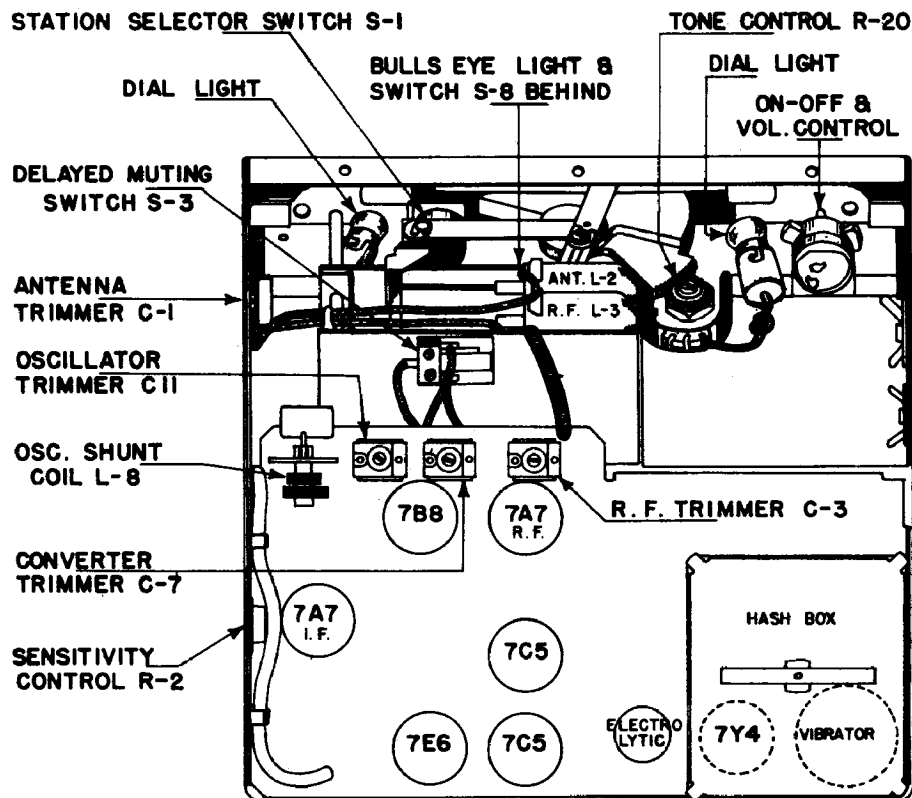

Fig. 10. Bottom View of Chassis
4. Adjust oscillator trimmer C-11 (Fig. 10) for maximum response.
7. Adjust converter trimmer C-7 (Fig. 10) and R.F. trimmer C-3 (Fig. 10) for maximum response.
6. Adjust oscillator trimmer C-11 Fig. 10 at 1700 Kc.
7. Adjust converter trimmer C-7, R.F. trimmer C-3, and antenna trimmer C-1 (Fig. 10) for maximum output reading.
13. "Rock in" shunt oscillator coil L8 (Fig. 10) for maximum output reading. This should be done only as a last resort. This is the same as rocking in the padder condenser on a ganged condenser receiver.